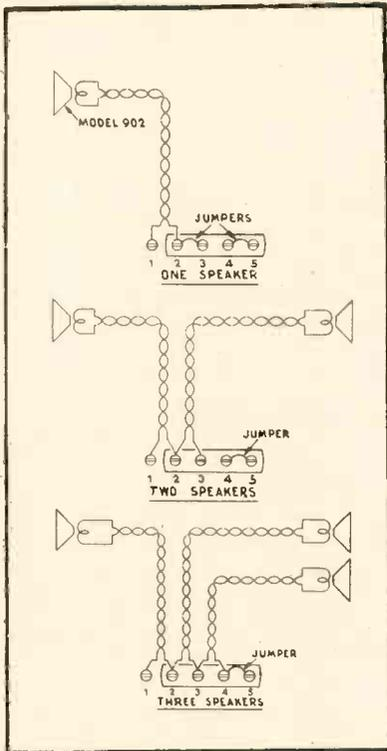

Fig. 3. Proper voice wiring plan for 1 to 3 remote-unit installations. Use of jumpers is determined by the number of remote stations involved.
(1) Inexpensive carbon resistors are easily affected by heat and may change in value, consequently changing the feedback ratio. This may cause either excessive feedback, resulting in decreased output or insufficient feedback resulting in increased output and poor quality depending upon the direction in which the feedback ratio change occurs.
(2) If  $C_B$  in Fig. 3 is leaking, it acts as a resistor permitting a d.c. current flow through the feedback circuit, resulting in a voltage drop across  $R_F$  which "bucks out" or neutralizes the grid bias, producing poor quality and loss of output.
(3) Remember that amplifiers employing inverse
mote units are shown in Fig. 2 and Fig. 3. Only twisted 2-wire cable should be used for the runs between remote units and main control unit. Close proximity to unshielded power wiring should be avoided. The color code of the terminal panel wiring is given in Fig. 2.